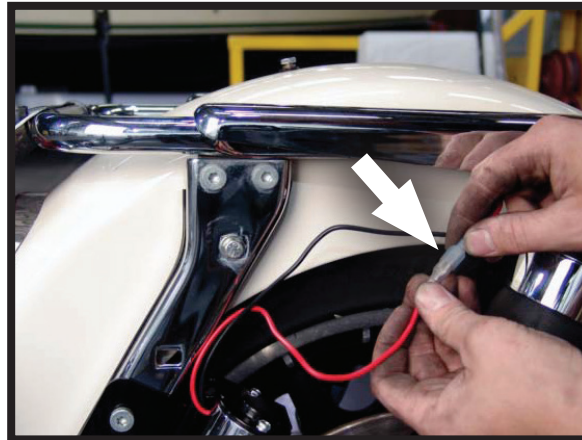

FIGURE 6
5. ATTACH THE COMPRESSOR POWER WIRE EXTENSION TO THE RED WIRE OF THE COMPRESSOR. (FIGURE 6)